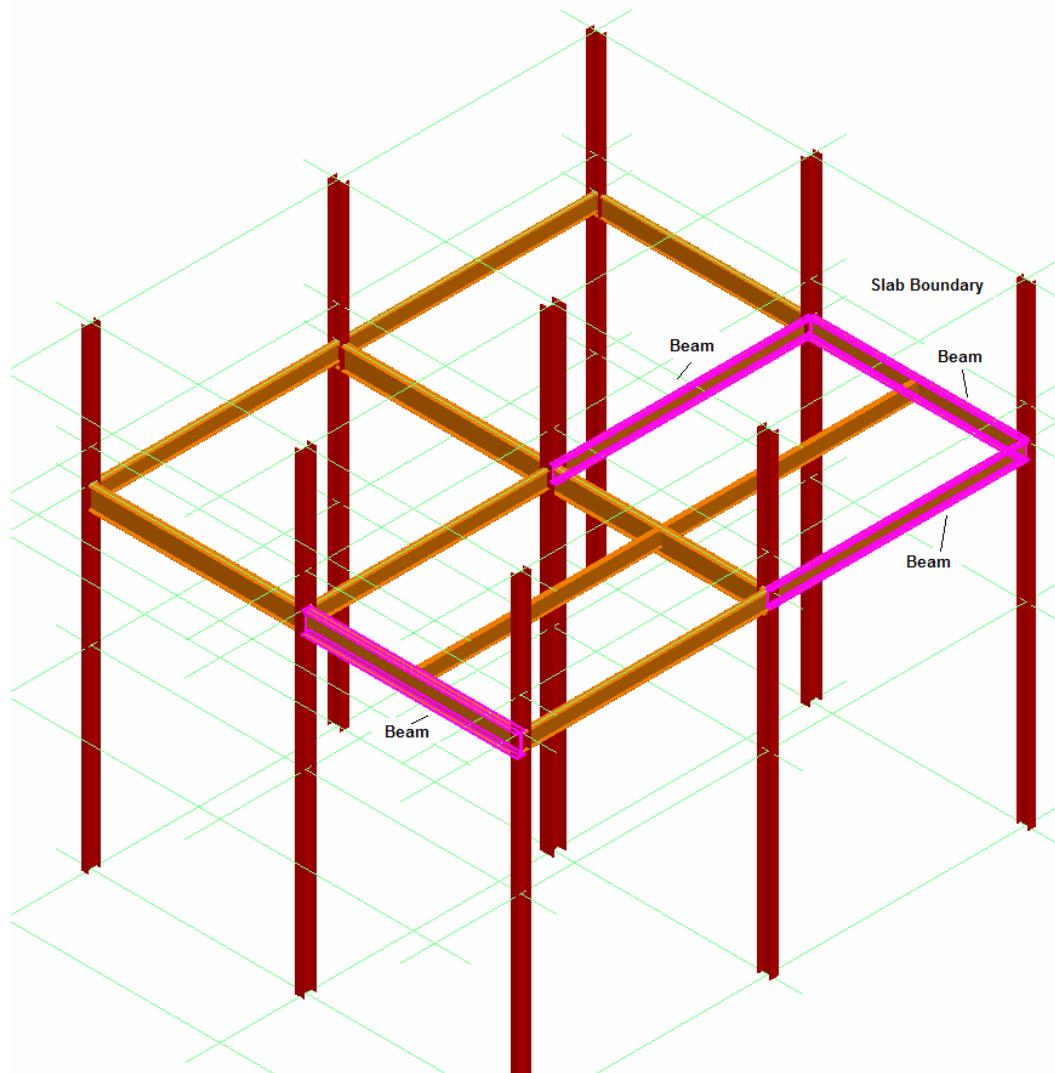

Figure 12 – ISO View of the Second Floor Frame
- 3 Select the boundaries as shown in Figure 12 to define the edges of the slab